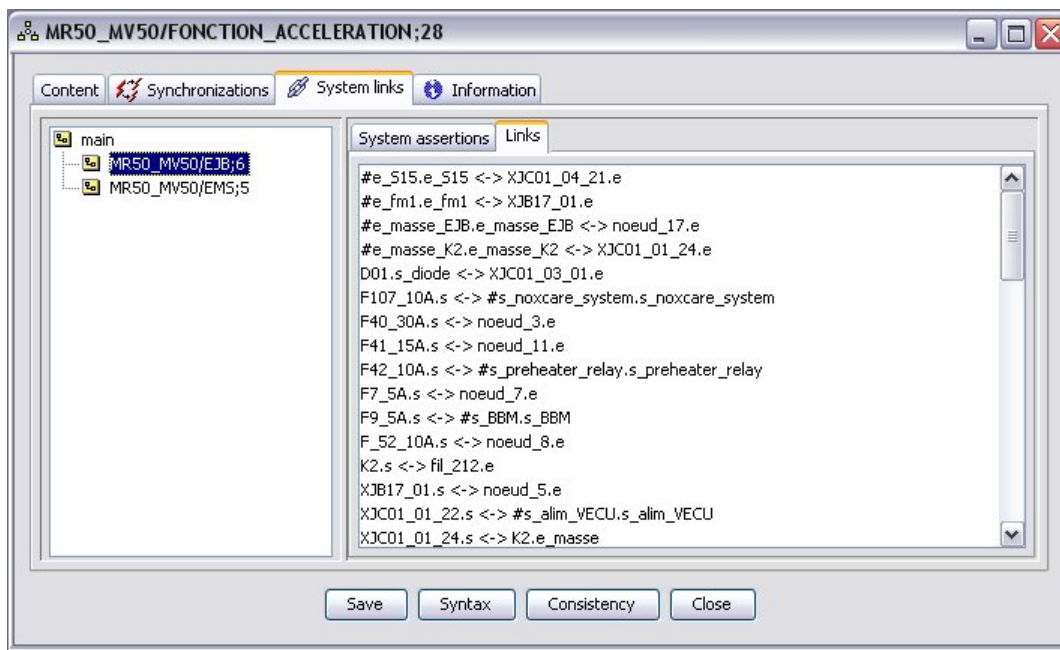

Figure 58 : System assertions – Links tab
- Click on the **Links** tab; the following window (Figure 58) displays an exhaustive list of all the links which have a graphical representation in a given hierarchical level.